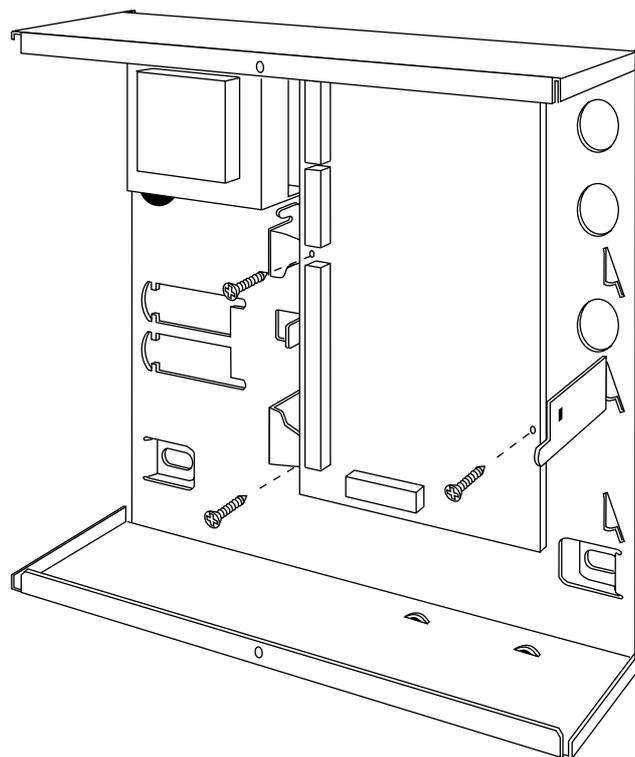

Figure 33. Fitting Control Unit PCB (9751)
5. On the 9751, re-fit the PCB to the support pillars. Secure the PCB to the support pillars with the screws provided (Figure 33). Make sure that the bottom left corner of the PCB is seated on its support pillar.